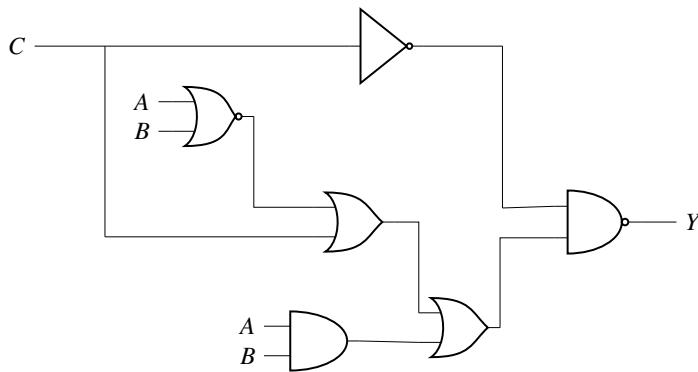

Fig. 3.33
49. In the circuit shown in Fig. 3.33, if $C = 0$, the expression for Y is